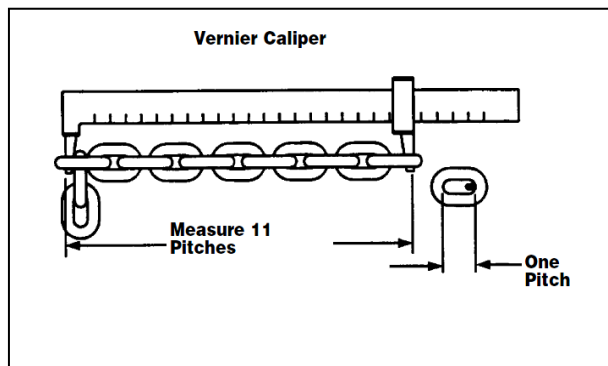

Figure 6.6.1
- Check load chain for wear at the inter-link contact points. Slacken the chain and move adjacent links apart to one side to observe and inspect for wear at the contact points. If wear is observed, measure the diameter of the chain link at the wear contact point. Case hardness of chain is about 0.015" deep. Chain must be replaced before the case is worn through. Also check chain for elongation using a Vernier caliper (see Figure 6.6.1).
- Select an unworn, un-stretched section of chain (usually at slack or tail end) and measure and record the length over the number of chain links (pitches) indicated in figure 6.6.1. Measure and record the same length of a worn section in the load side of the chain. Obtain the amount of wear by subtracting the measurement of the unworn section from the measurement of the worn section. If the result (amount of wear) is greater than the amount specified in the "Allowable Chain Wear" (Table 6.6.1) then the chain has elongated beyond the maximum allowable length and must be replaced.